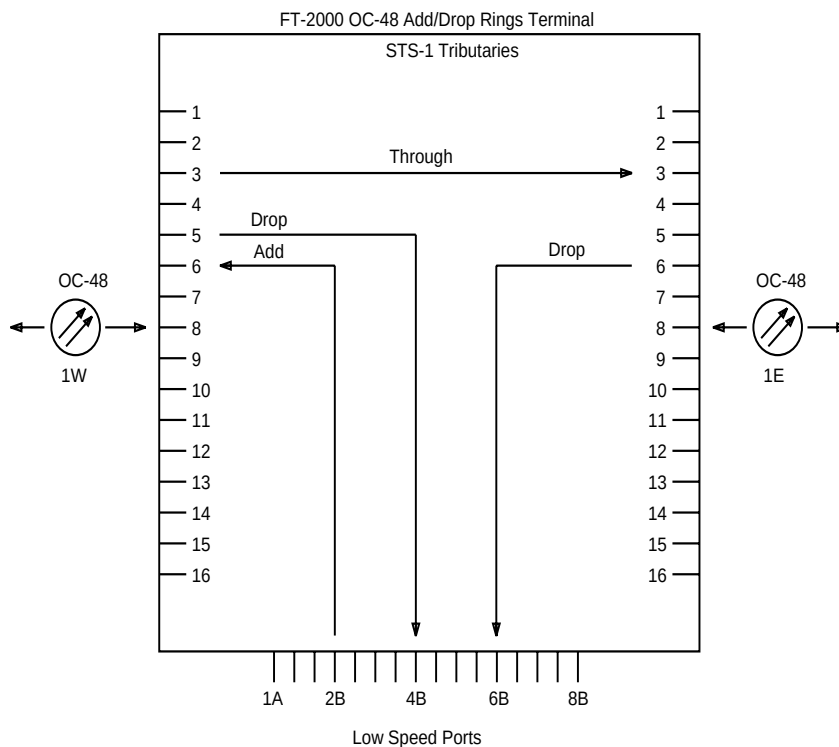

Figure 8-1. STS-3 1-Way Cross-Connections at an FT-2000 OC-48 Add/Drop-Rings Terminal
- **Add cross-connections:** Add cross-connections are made from any service low-speed interface slot to any outgoing 155 Mb/s (STS-3) tributary of OC-48 high-speed line 1E or 1W. For example, Figure 8-1 shows service low-speed interface slot 2B cross-connected to outgoing service STS-3 tributary 6 of OC-48 high-speed line 1W.
- **Drop cross-connections:** Drop cross-connections are made from any incoming STS-3 tributary of OC-48 high-speed line 1E or 1W to any service low-speed interface slot. For example, Figure 8-1 shows incoming service STS-3 tributary 5 of OC-48 high-speed line 1W cross-connected to service low-speed interface slot 4B.
- **Through cross-connections:** Through cross-connections are made from any incoming STS-3 tributary of OC-48 high-speed line 1E or 1W to the same-numbered outgoing STS-3 tributary of the other OC-48 high-speed line. For example, Figure 8-1 shows incoming service STS-3 tributary 3 of OC-48 high-speed line 1W cross-connected to outgoing service STS-3 tributary 3 of OC-48 high-speed line 1E.
When an STS-3 tributary of OC-48 high-speed line 1E or 1W is cross-connected to a service low-speed interface slot, another service low-speed interface slot may be cross-connected to the same-numbered STS-3 tributary of the other OC-48 high-speed line. For example, Figure 8-1 shows service low-speed interface slot 2B cross-connected to service STS-3 tributary 6 of OC-48 high-speed line 1W, and service STS-3 tributary 6 of OC-48 high-speed line 1E cross-connected to service low-speed interface slot 6B. This is consistent with the 2-fiber bidirectional, line-switched ring standard.